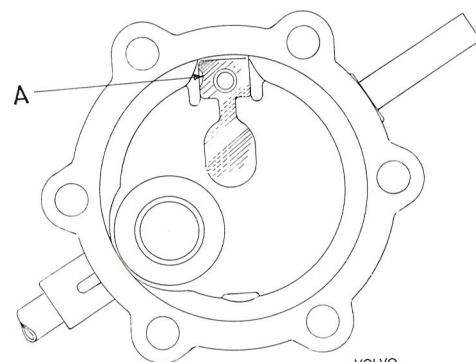

Fig. 2-121. Location of leaf spring
1. Fit the spring according to Fig. 2-121 and the stop arm. Tighten the screw sufficiently so that the spring fits well against the pump housing.
2. Fit the spring (4) and the guide (3). Fit on the rubber seal (2) with the flange facing in towards the guide.
4. Press down the diaphragm, insert the lever (14) and make sure that the lever fits correctly in rela-